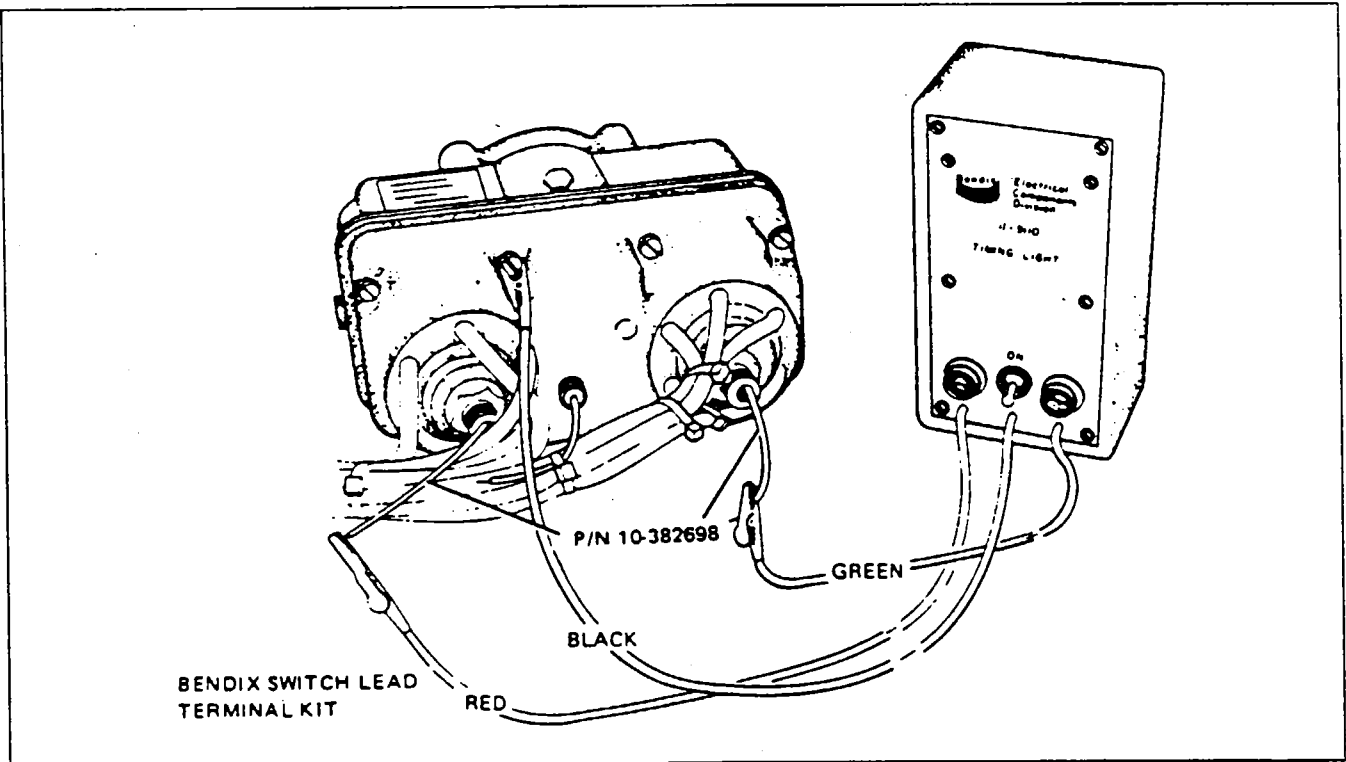

Figure 74-4. Timing Light connected to Magneto
It is recommended that short adapter leads be fabricated to facilitate connecting the timing light unit to the switch outlet terminals of the cover. (Refer to Figure 74-4.)
11. Attach red lead from the 11-9110 timing light to the left switch adapter lead, the green timing light lead to the right switch adapter lead and the black timing light lead, to the magneto housing. (Refer to Figure 74-4)